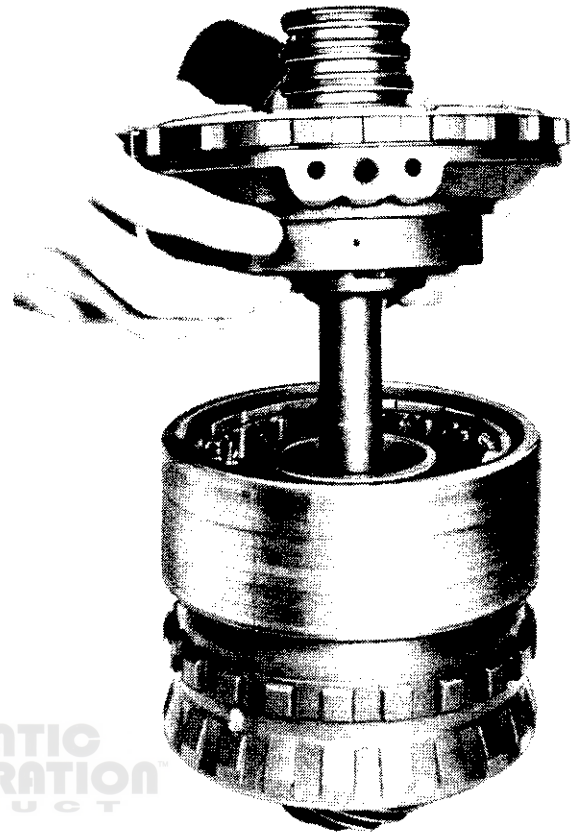

Fig. 2C-45 Removing Center Support from Gear Unit
- (13) Remove rear internal gear to sun gear thrust bearing and two races from main shaft.
- (14) Remove rear internal gear-to-main shaft snap ring and remove gear from shaft (fig. 2C-50).